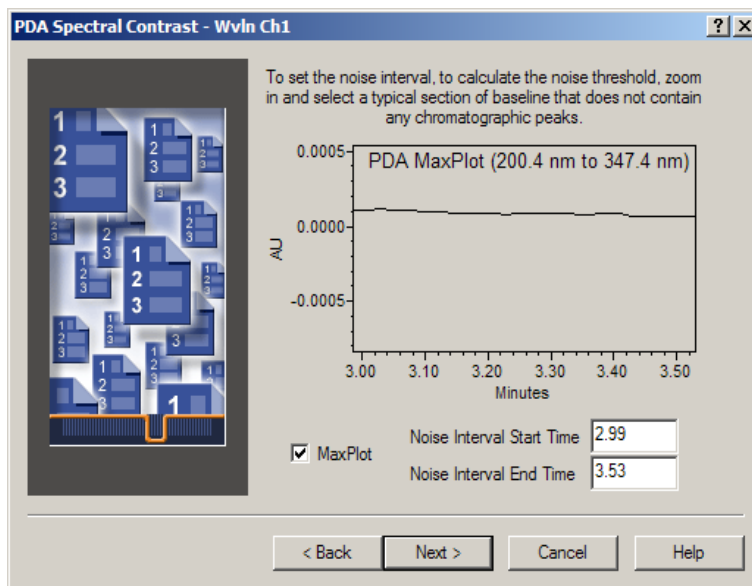

Figure 4-25 Setting the Noise Interval
13. Select the segment of the baseline from approximately 3.00 to 3.50 minutes (Figure 4-25).